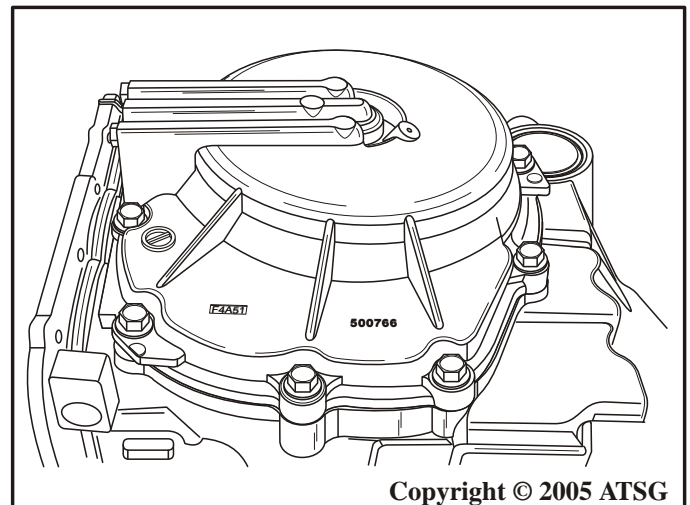

Figure 43
34. Rotate transaxle on bench so that rear cover is facing up, as shown in Figure 43.